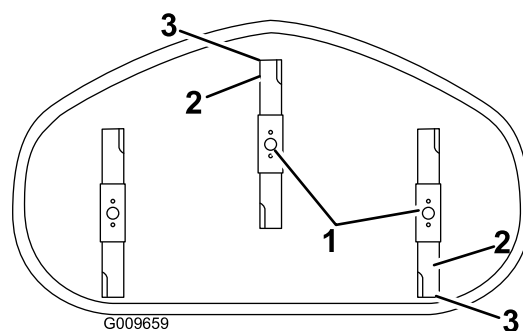

**Figure 51**
5. Measure between the outside cutting edges and the flat surface (Figure 51 and Figure 52).
4. Carefully rotate the blades so that they are all side to side (Figure 51 and Figure 52).